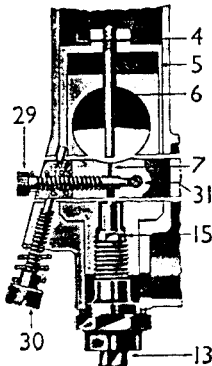

Fig. 4.
(a) This fig. 4 is three diagrammatic sections of the carburettor to show the throttle adjusting screw (30), and the pilot air adjusting screw.
The taper needle position in relation to the throttle opening can be set according to the mixture required by fixing it to the throttle valve with the jet needle-clip in a certain groove (see figure 4 above), thus either raising or lowering it. Raising the needle enriches the mixture and lowering it weakens the mixture at throttle openings from quarter to three-quarters open (see figure 5, page 7). The needles are marked with the letters B, C, or D. B type are fitted in the 375 Carburettor, C type in the 376 Carburettor, and D type in the 389 Carburettor. The needles in some cases are marked with a number in addition to a letter.